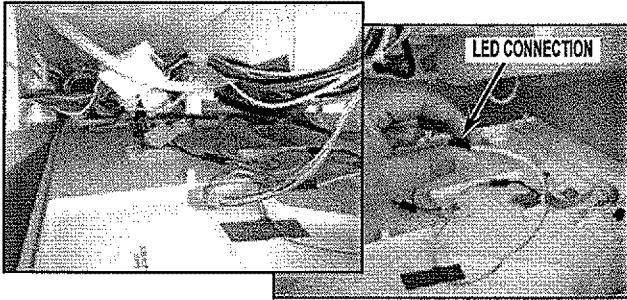

FIGURE 8
10. To remove the water reservoir cover, slide it completely forward and disconnect LED lighting connection. Place to side. See Figure 8.